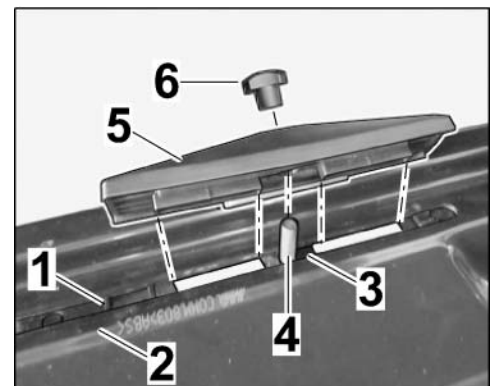

Figure 3
1.2.4 Loosely install M8 butterfly nut (⇒ *Figure 3*).